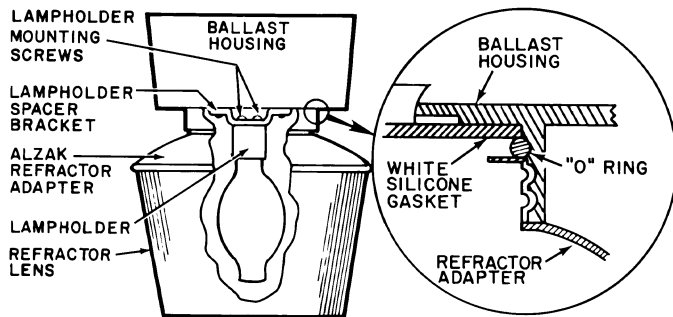

Figure 1.
1. After the fixture has been installed, in accordance with the IF1108 instructions furnished for use with it, the O-ring should be placed above the threads in the ballast housing, as shown in small section of Figure 1 on this instruction sheet.
4. Remove two (2) lampholder mounting screws in ballast housing and take lampholder out of casting cavity.
6. Attach lampholder spacer bracket furnished with refractor to lampholder in position shown in Figure 1, using the two (2) mounting screws previously used to mount lampholder.
7. Use two (2) self-threading screws (provided) in holes in casting to mount lampholder and spacer bracket on surface just outside lampholder cavity in casting.
9. Place O-ring in globe thread opening above threads and against gasket. (See small section in Figure 1.)